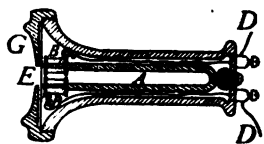

FIG. 310.—A telephone receiver. This receiver has a permanent horseshoe magnet with a coil about each pole.
**313. The telephone receiver** was invented in 1876 by Alexander Graham Bell. It consists of a permanent steel magnet, U shaped, with a coil of fine insulated copper wire about each pole. (See Fig. 310.) A disc of thin sheet iron is supported so that its center does not quite touch the